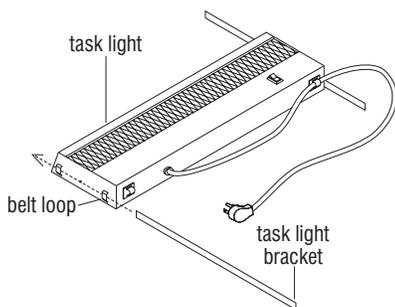

Figure 14
2. Assemble task light and brackets by sliding brackets through the belt loops at each end of the task light (Figure 14).